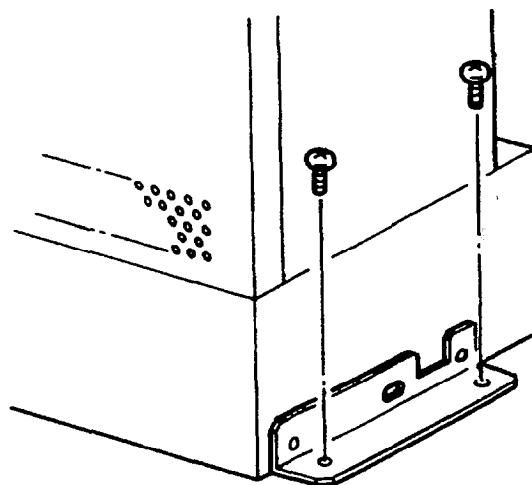

Figure 3-49 Attaching the Floor Mount Bracket to the Floor
2. Attach the Floor Mounting Bracket to the floor using the screws locally provided. Refer to Figure 3-49 - Attaching the Floor Mount Bracket to the Floor.